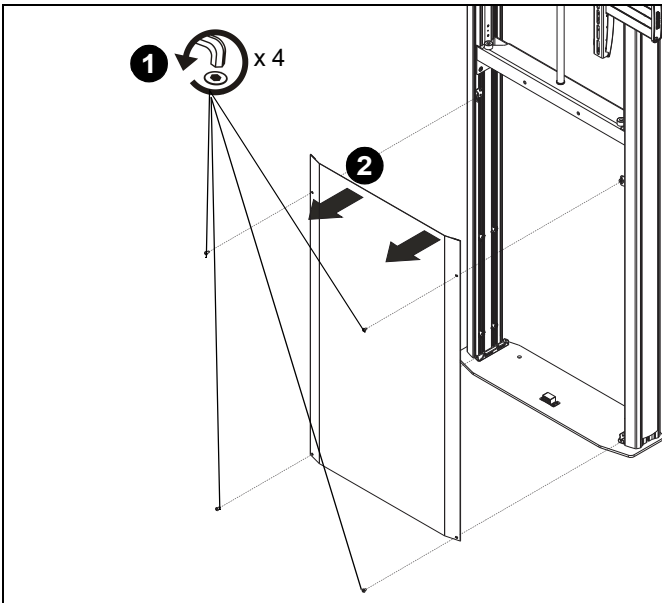

Figure 17
1. Remove lower cover to expose floor holes. Refer to Cover Removal Section for details. (See Figure 17)
1. Remove four button head cap screws holding front cover to mount. (See Figure 17)
2. Pull front cover away from mount. (See Figure 17)